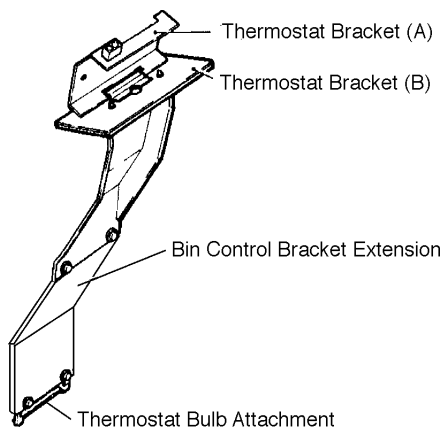

Fig. 3b
- (j) Remove the two screws holding the Bulb Holder (C) and the Thermostat Bulb Attachment together. Put aside the Bulb Holder (C); it is not needed with the Hoshizaki Bin.
- (k) Use two of the screws to attach the Bin Control Bracket Extension to the Thermostat Bracket (B).
- (l) Use the two 4 x 10 stainless steel screws in the accessory bag to attach the Thermostat Bulb Attachment to the Bin Control Bracket Extension. See Fig. 3b.